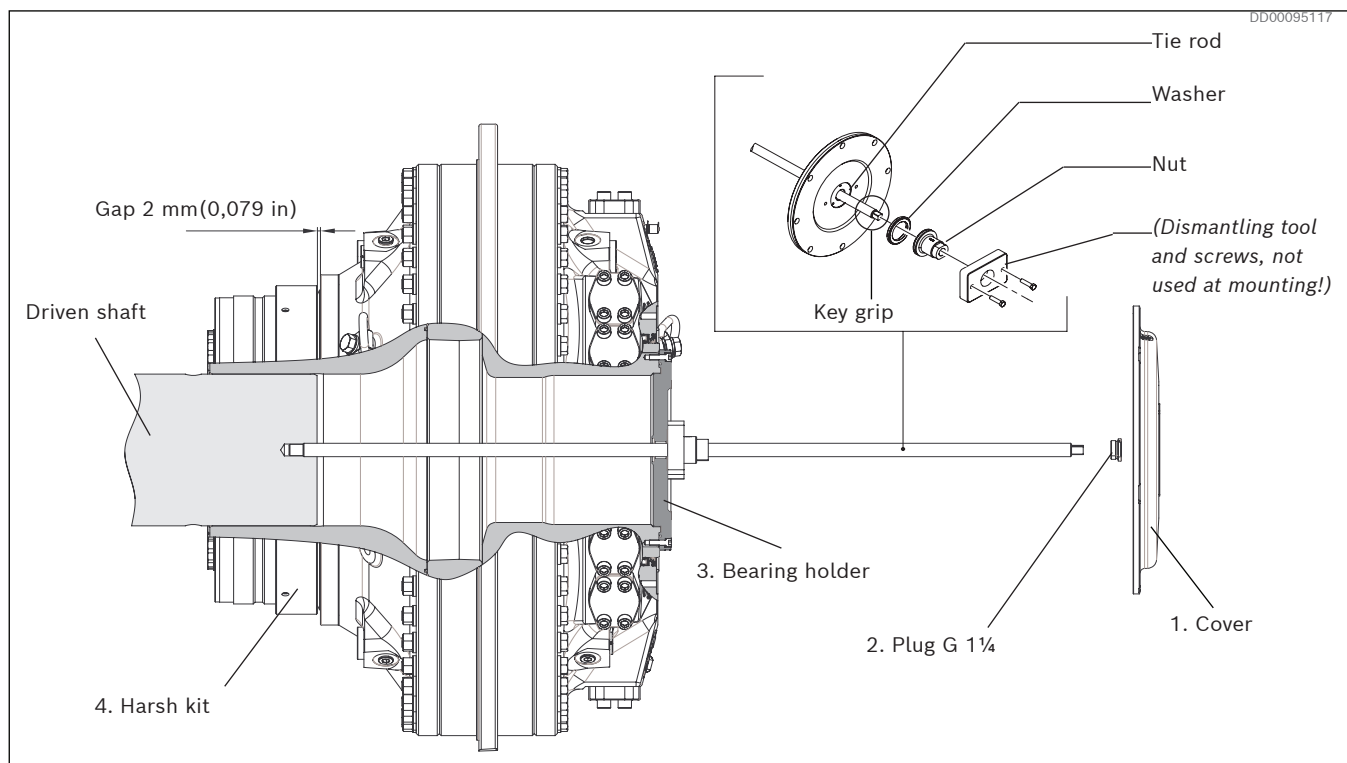

Fig. 48: Mounting of coupling motor with assembly tool
1. Remove the end cover (1) together with screws and washers.
2. Remove the plug G1¼ (2).
4. Install the assembly tool by pass the tie rod through the centre of the motor, and screw it into the driven shaft by using a wrench at the key grip at the end of the assembly tool. Assemble the washer and then the nut tight to the bearing holder (3). See *Fig. 48*.
10. Adjust the harsh kit (4) according to *Fig. 48* and tighten the M10 stop screws gradually crosswise to 25 Nm (18 lbf ft).
11. Check the gap according to *Fig. 48* after test drive